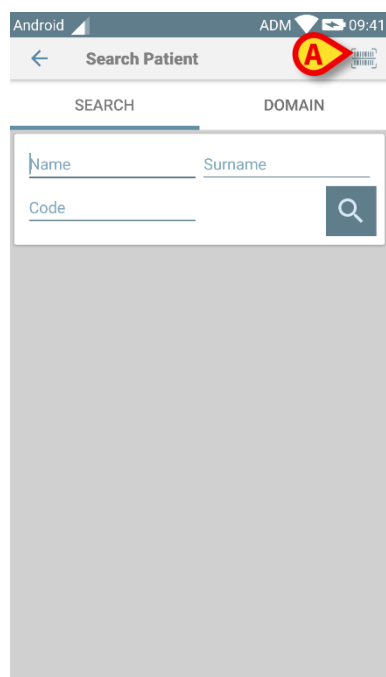

Fig 38
- Touch the  icon indicated in Fig 38 **A**.